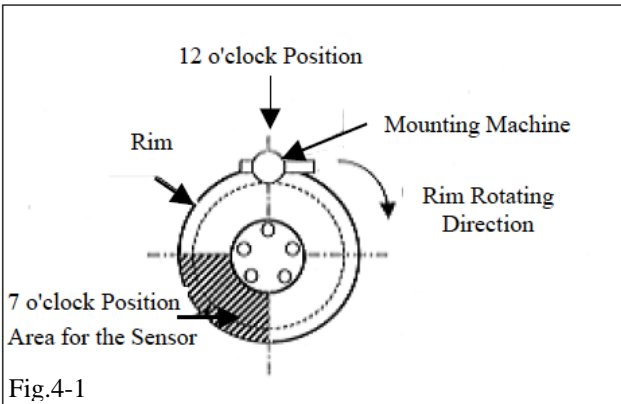

Fig.4-1
- (c) Position the wheel on the mounting machine with the sensor at ~ 7 o'clock position (shaded area in Fig. 4-1)